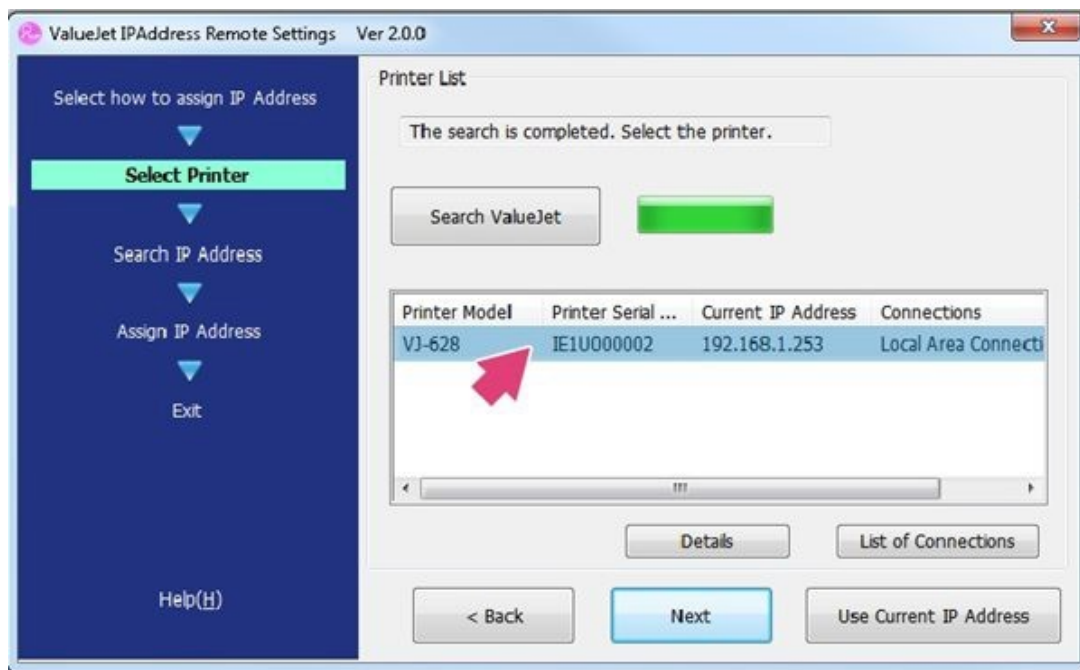

Figure 20
- The ValueJet Finder will now search for any available ValueJet printers installed on the network. In circumstances where multiple printers are installed, you can identify the specific printer you are looking for by the serial number located on the back of the printer. Select the desired printer by moving your mouse pointer over the listing and clicking on it. See Figure 20.